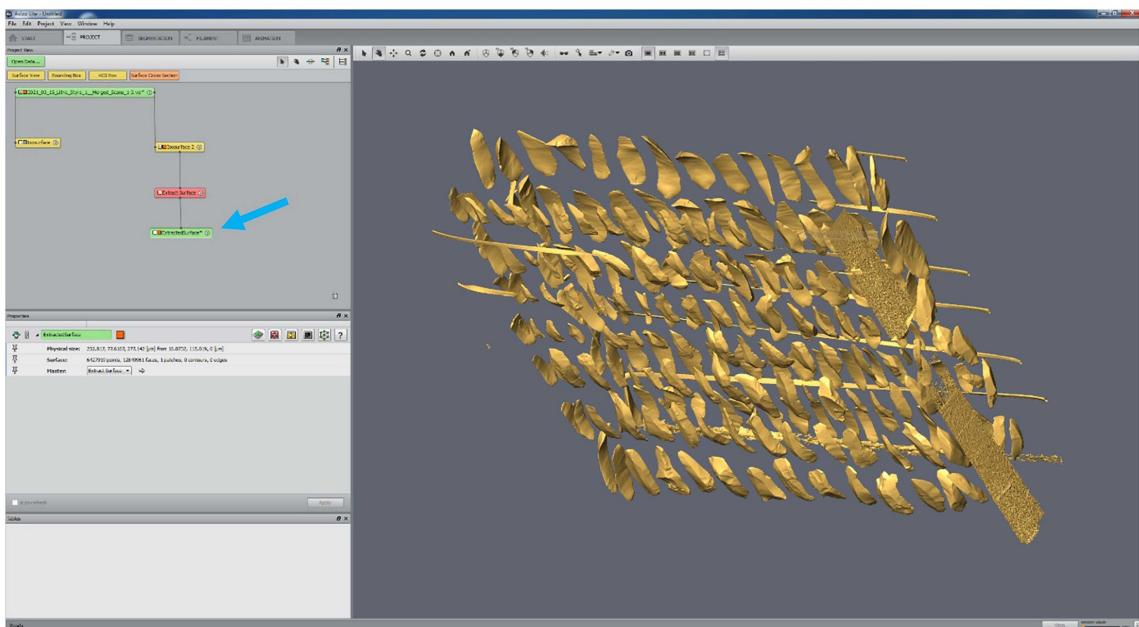

Fig. 21: Extracted surface scan.
- 24.5** A new label called 'ExtractedSurface' will appear (blue arrow in Fig. 21).